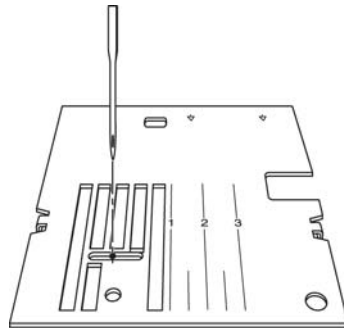
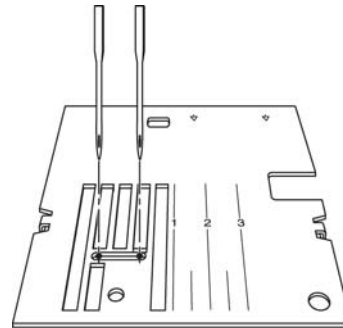

Fig. 11
Fig. 11a
At the straight stitch setting, the needle must be in the center of the needle hole (fig. 11). The widest zigzag stitches must have the same distance from the left and right needle hole edges (fig. 11a).
- Carry out a visual check (fig. 11).
- Turn the handwheel and check the left and right distance (fig. 11a).
- Push the stepping motor 48 to the left or to the right until the needle is centered in the needle hole (fig. 11).